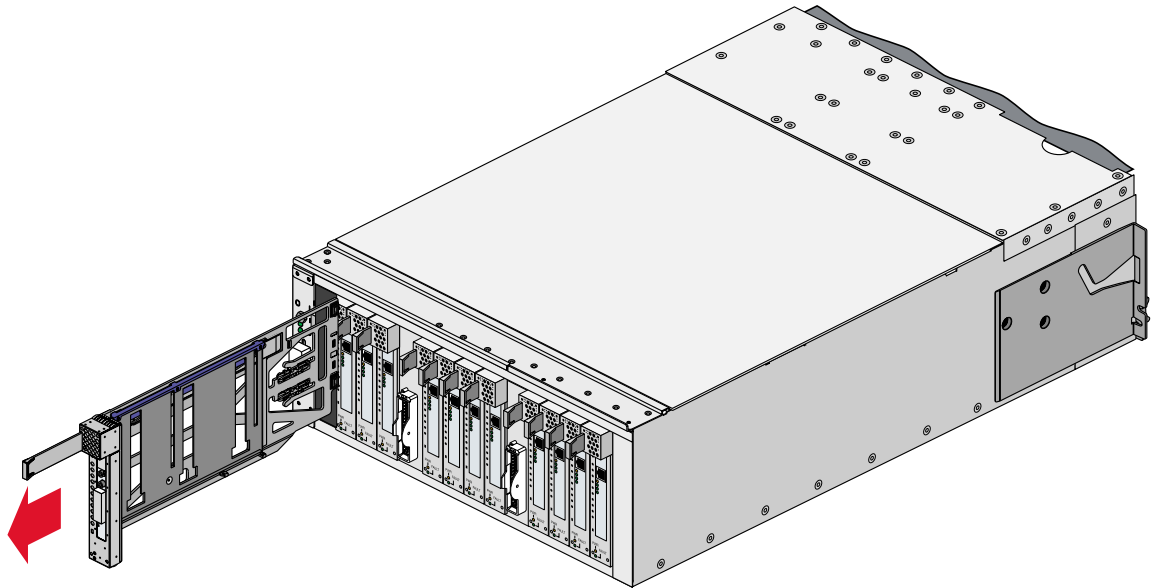

Figure 12-1 Removing a Card Carrier
3. To extract it from the slot, pull the handle on the selected card carrier straight out, as shown in Figure 12-1.